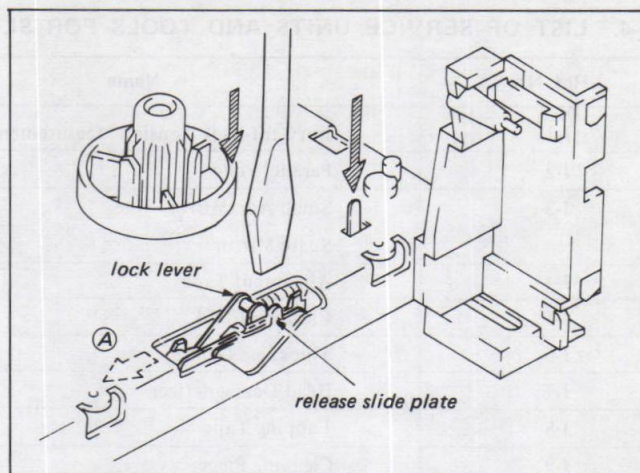

Fig. 1-5. Cassette compartment lock
- 2) With the cassette compartment raised, push the lock lever in Fig. 1-5 using a blade-tip screwdriver, or other tool to lock the cassette compartment, then press the cassette detection lever.